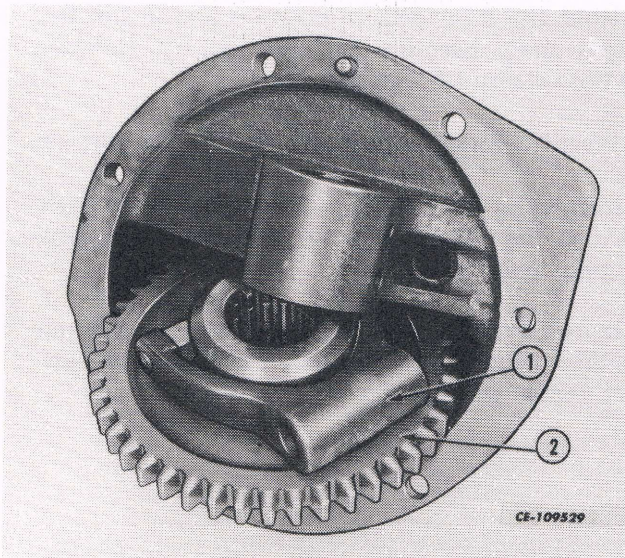

Fig. 23
1. Remove the roll pin from the idler gear shaft (1). See Fig. 23.
2. Remove the idler gear shaft and idler gear assembly (2) from the housing. See Fig. 23.
(3) with bearing retainer flange, seal and bearing. See Fig. 23.
4. Remove the pipe plug (4) and drive the roll pin from the selector fork shaft and remove the shaft from the fork assembly. See Figs. 23 and 24.